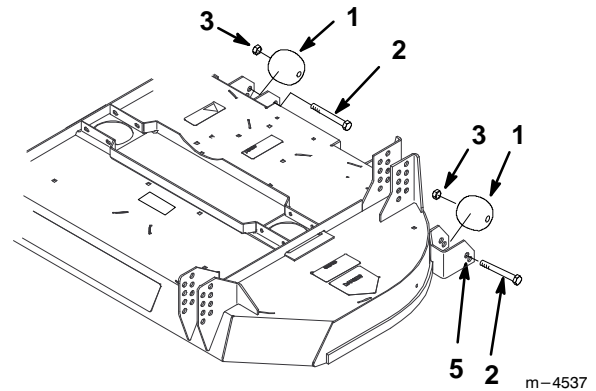

Figure 13
2. Remove the locknut and bolt to change hole location (Fig. 13).
3. Select the proper hole position for the height-of-cut to be used (Fig. 13).